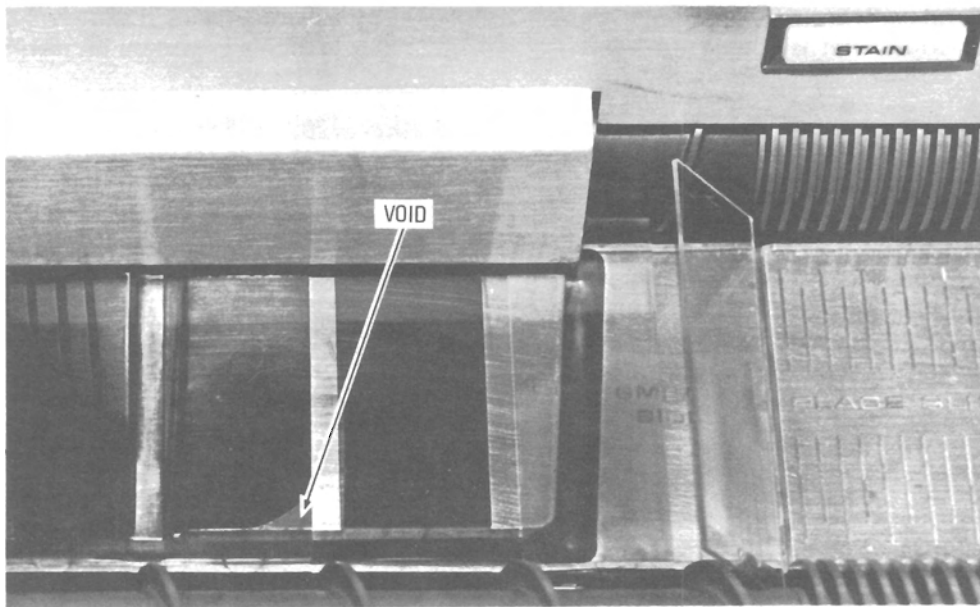

Figure 3-6
- D. To achieve proper surface tension across the platen, run five (5) blood film slides—stained or unstained—over the platen. This procedure "wets" the platen and achieves proper surface tension characteristics.
- E. Adjust the stain control knob. Run five blood film slides on platen and adjust the stain control knob so that the pump just fills, *but does not overflow*, the capillary space between the platen and slide. If the slide is receiving an inadequate amount of stain, adjust the control knob toward the positive (+) scale markers. There should be no visible overflow of solution on either side of the slide and *there should not be an excess* of stain hanging over the front, beveled edge of the platen. Small voids which may occur on the slide after proper filling are acceptable, and will not adversely affect stain quality (see Figure 3-6).
NOTE: Small voids which may occur in some areas on some slides as they move across the platen are acceptable, and do not constitute an underfill (see Figure 3-6). It is important that the capillary space just fills, and does not overflow when the pump shuts off.